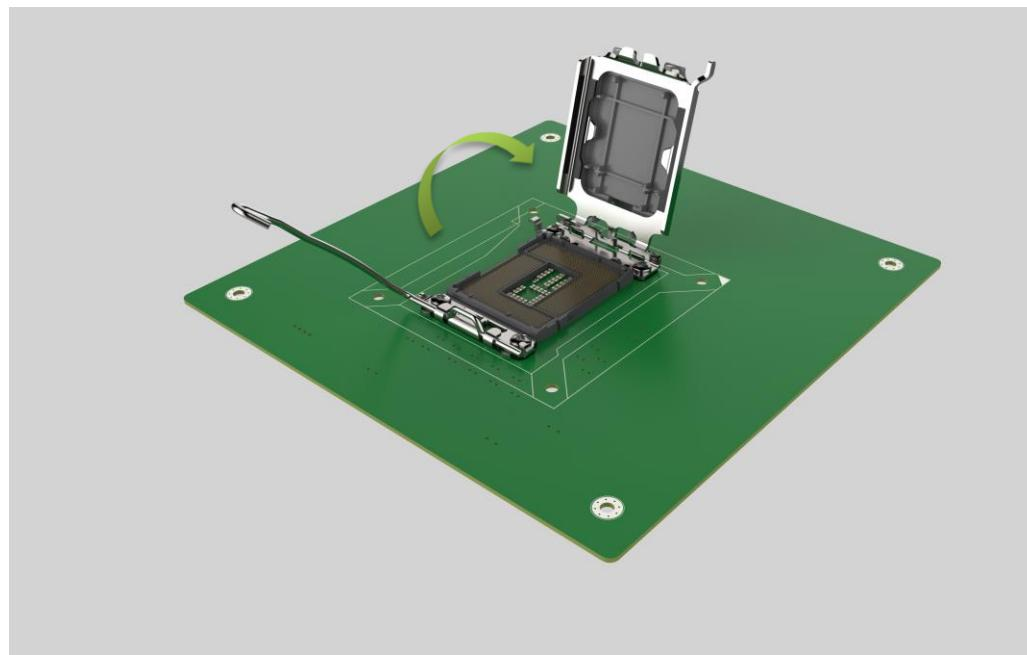

Figure 3-4: Remove Protective Cover
Step 2: Open the socket and remove the protective cover. The black protective cover can be removed by pulling up on the tab labeled "Remove". See **Figure 3-4.**